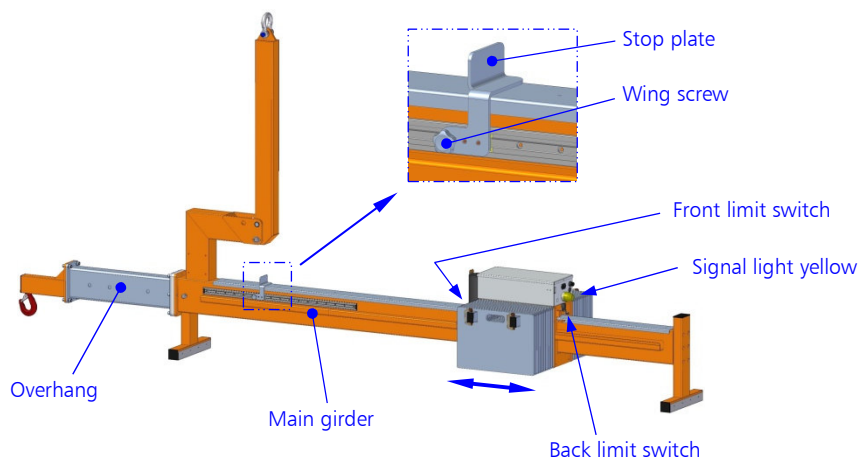

Fig. 11: Stop plate and yellow signal light
- Position the stop plate (s. fig. 11) as follows:
- ⇒ Loosen the wing screw of the stop plate (s. fig.11) and push the stop plate onto the travelling cage until the front limit switch is triggered. The yellow signal light turns off. Retighten the wing screw.